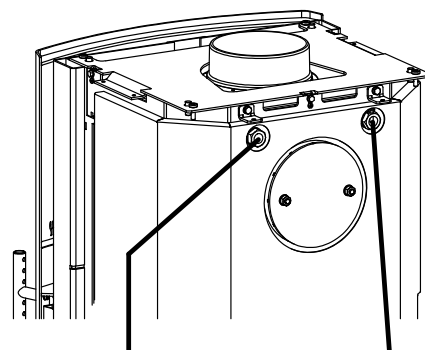

Fig. 3 Sensor pocket for TAS      Sensor pocket for temperature sensor „Temperature Difference Controller“
- Slide the temperature sensor of the "Temperature Difference Controller" into the right-hand sensor pocket and secure it using the threaded screw (Fig. 3).